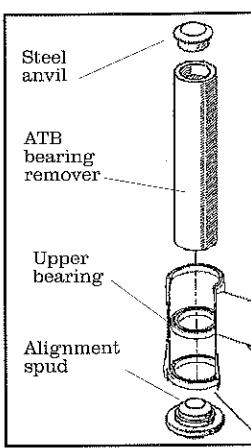

Fig. 14
2. Insert the large end of the **alignment spud** into the lower bearing (Fig. 14).